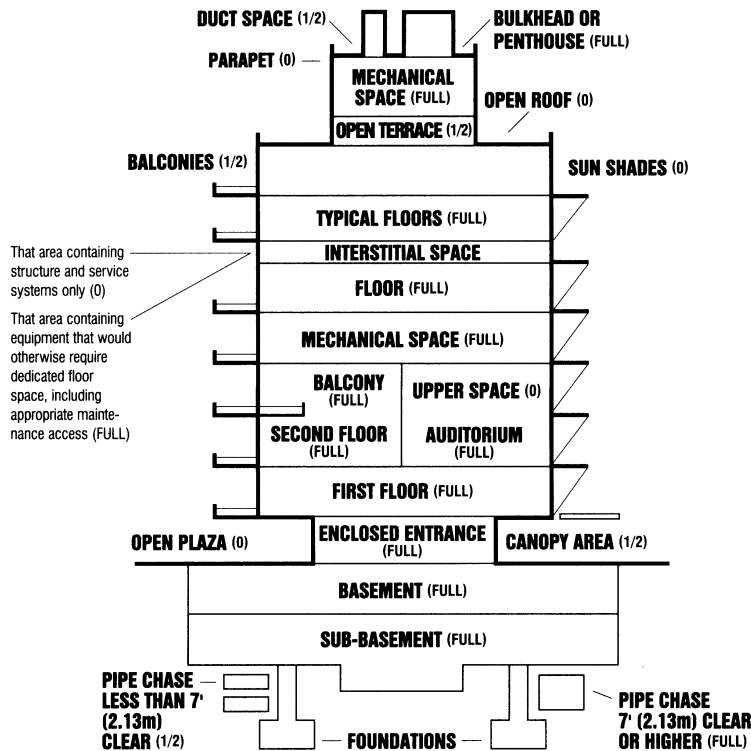

Figure 1: Architectural Area Calculation
- a. *Architectural Area or Gross Area* - The area of a building is the sum of the areas of the floors of the building, measured from the exterior faces of exterior walls or from the centerline of walls separating buildings. This area includes basements, mezzanines, intermediate floors and penthouses, provided that these areas have minimum of seven feet headroom height. Paved or finished covered areas shall be included at $\frac{1}{2}$ the measured area. Balcony areas count fully but floor openings or upper spaces in double high rooms are not counted. See Figure 1 below for further definitions.